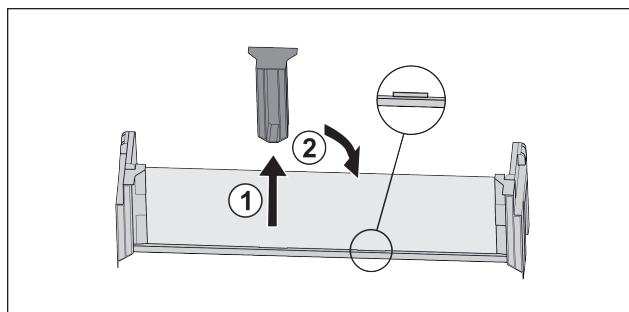

Fig. 21
- Pull off the middle holder Fig. 21 (1).
- Insert the middle holder in the second position Fig. 21 (2).